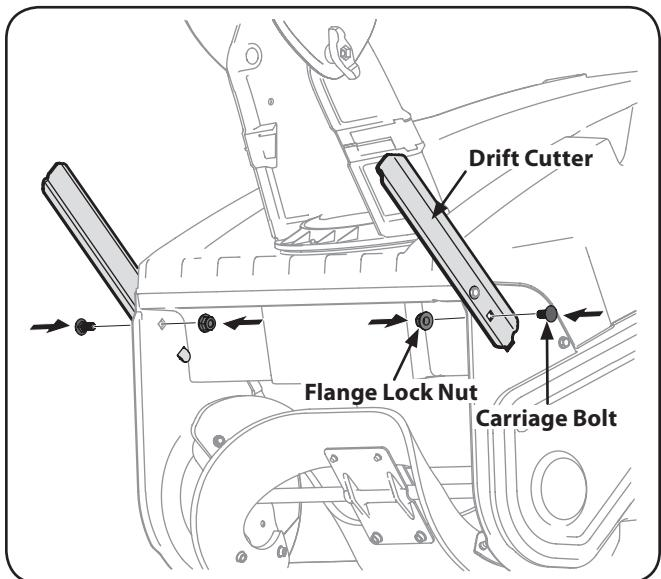

**Figure 3-5**
- Remove the hex lock nut and machine screw from the chute rotation control. See Fig. 3-5.
- Place the chute rotation control onto the chute rotation rod and secure with the hex lock nut and machine screw removed in step 1. See Fig. 3-5.